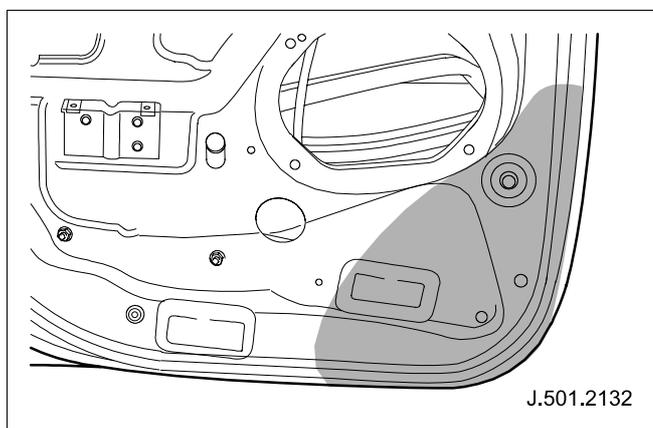

Fig. 15
- 7 BIW Sealing patch. (See Fig. 15)